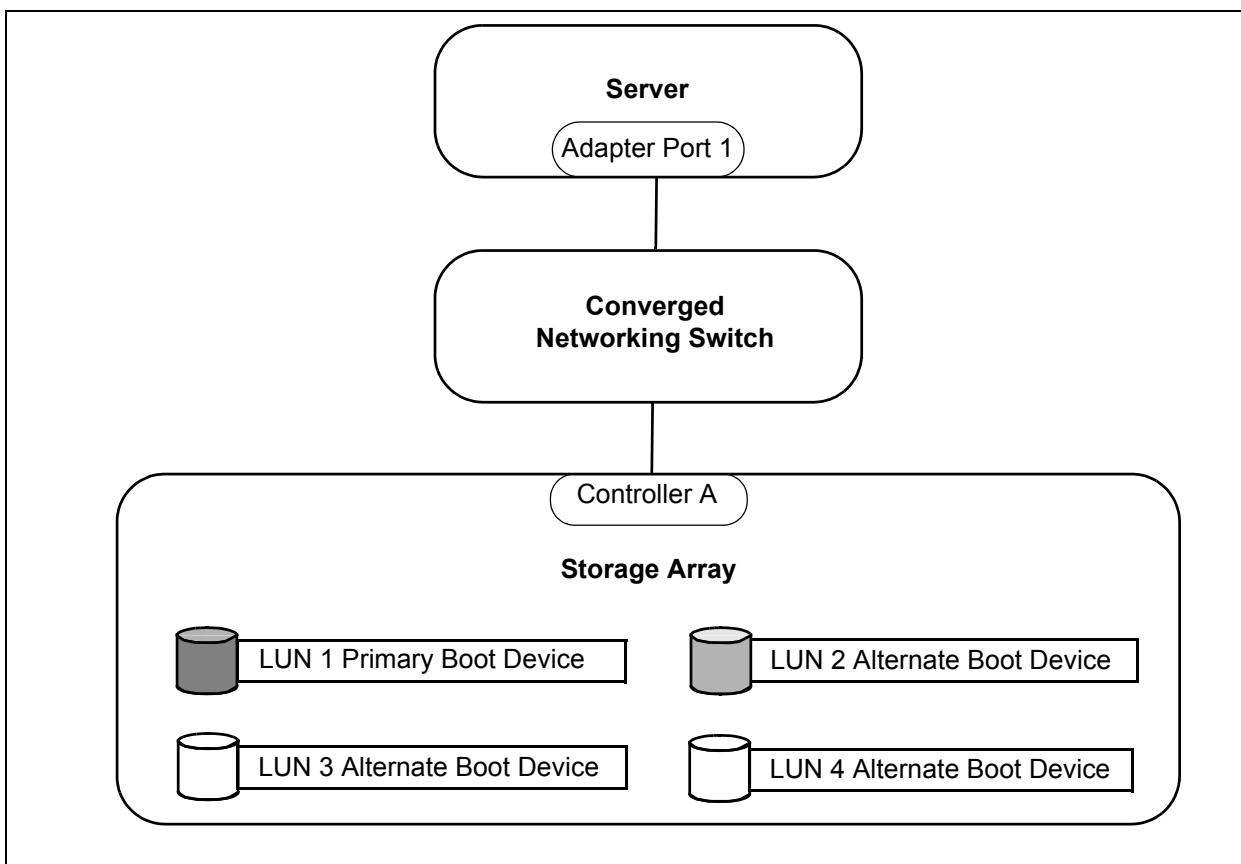

Figure 8-12. Single-Path Topology
However, single-path topology does offer some degree of fault tolerance, because the QLogic 8100 Series Adapter can configure alternate boot LUNs. As shown in Figure 8-12, if the primary boot device (LUN1) fails, or if it is not available at boot time, the QLogic adapter automatically tries to boot from the alternate boot device (LUN2). Up to four alternate boot devices can be configured, which provides failover protection by redirecting the boot device without user intervention.
2. Connect the SAN components in a single-path topology as shown in Figure 8-12. If a multipath topology is required, make the necessary additions and connections after the initial operating system installation.